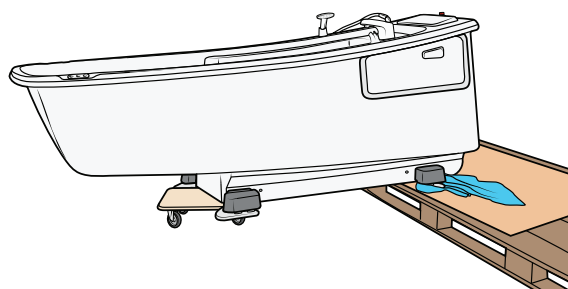

Figure 17
4. Rotate the bathtub to a 90 degree angle. See Figure 17